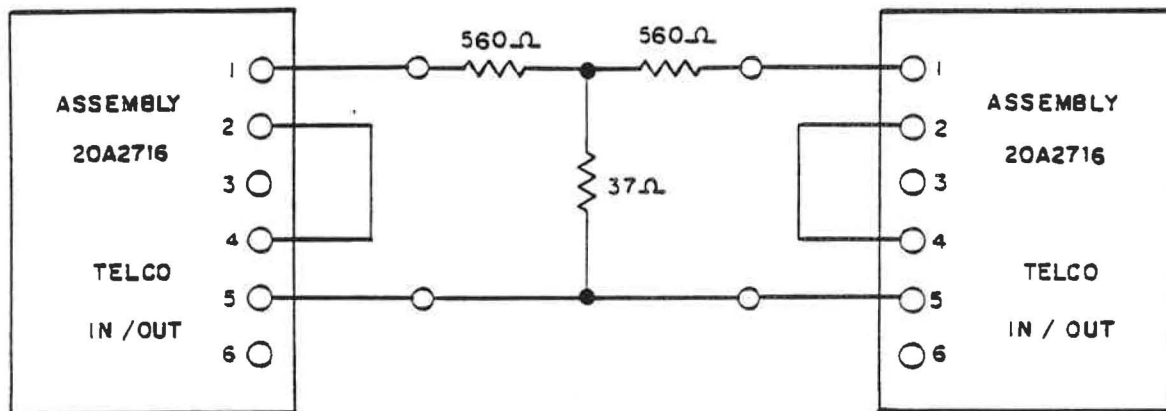
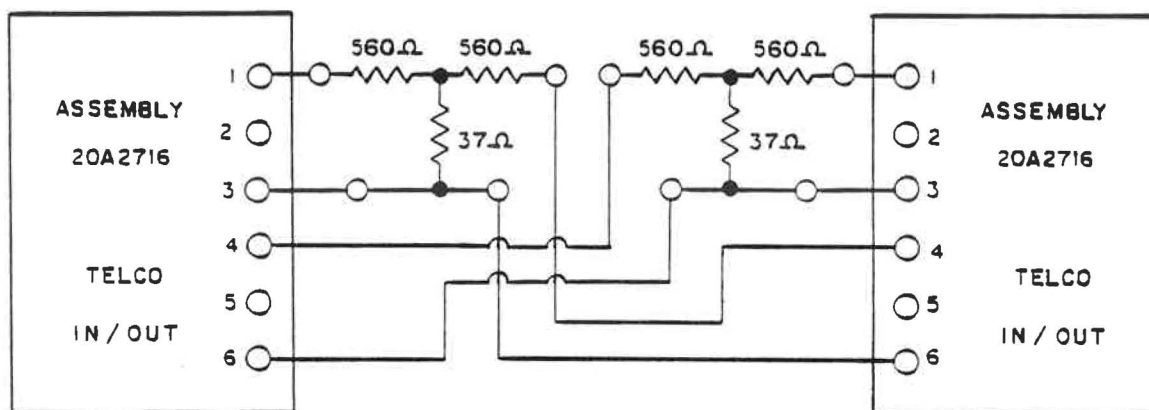
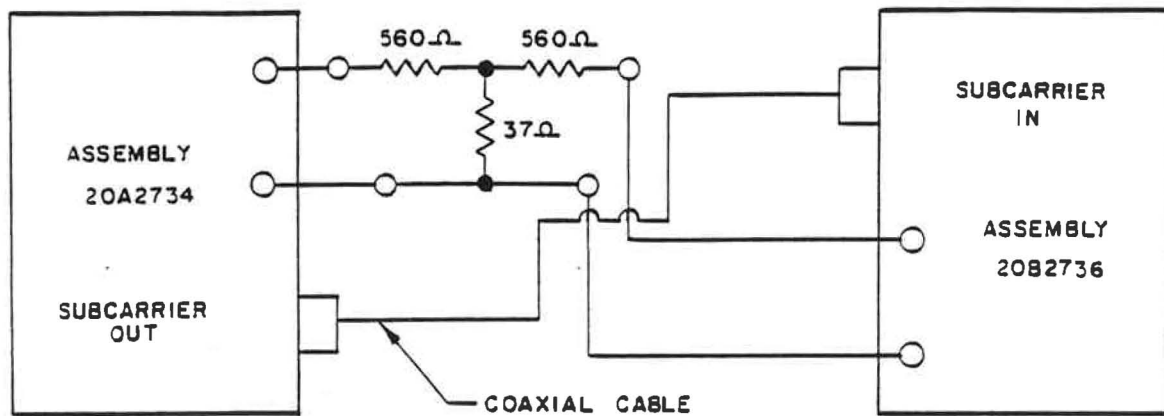
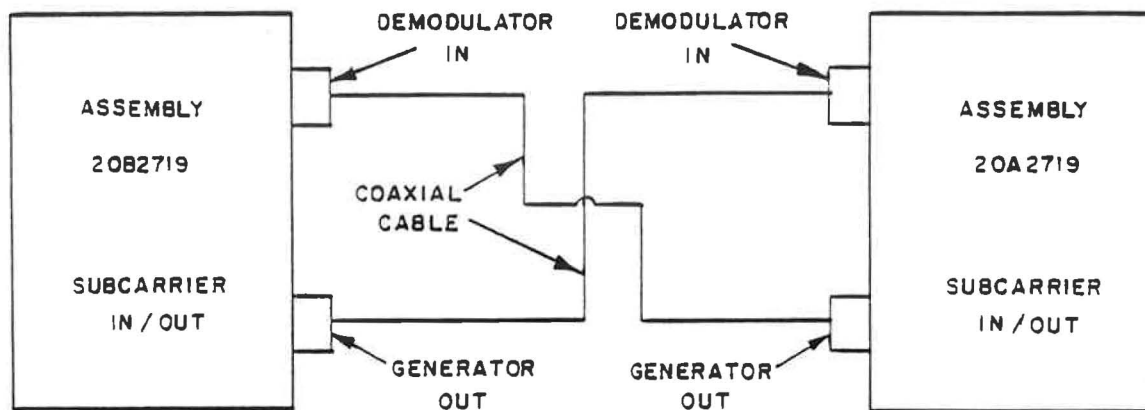

Figure 1.1 - Two-Wire Interconnect
Figure 1.2 - Four-Wire Interconnect
Figure 1.3 - Mixed Subcarrier and Telco
Figure 1.4 - Subcarrier Interconnect
Step 1: Connect the Control and Remote back-to-back on the bench. For a two-wire system, see Figure 1.1. For a four-wire system, see Figure 1.2. For a mixed telco and subcarrier system, see Figure 1.3. For systems using a subcarrier interconnect in both directions, see Figure 1.4.